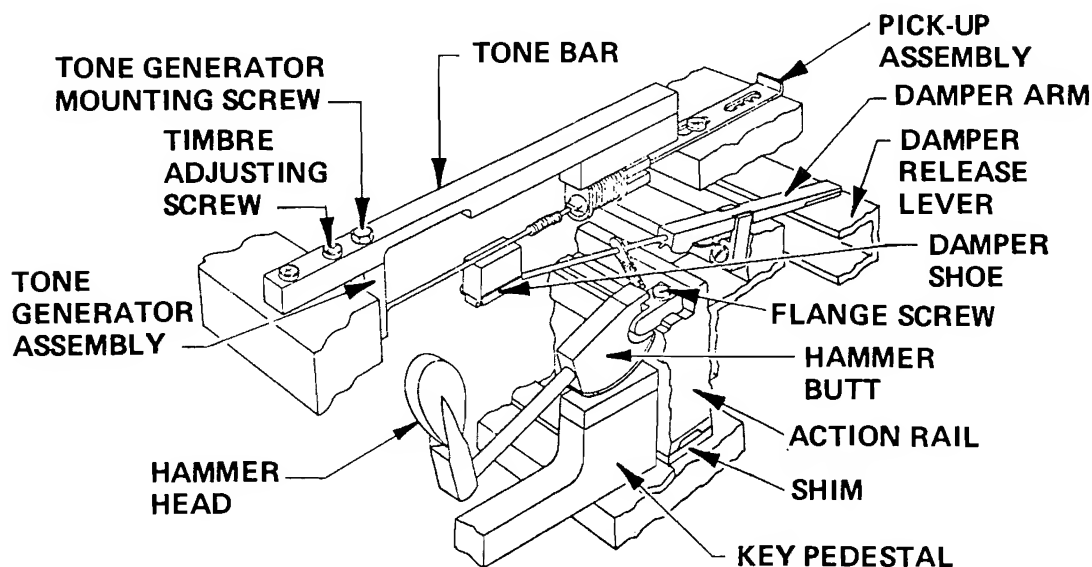
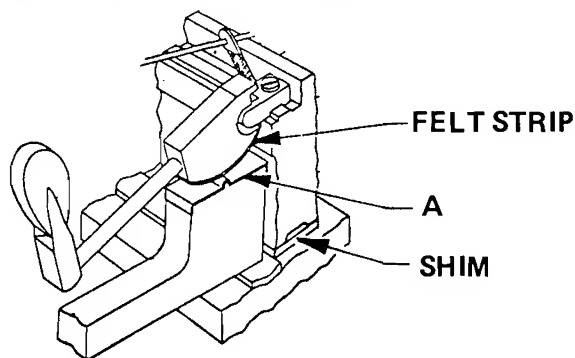

Figure 8-1. RHODES Original Action Design
Figure 8-2. RHODES Second Stage Action Design
The original Hammer Assembly appeared as shown in Figure 8-1.
An interim change involved the insertion of an aluminum clip (Figure 8-2, A) on top of the Key Pedestal. This was done to increase the acceleration of the old Hammer design.
1. Suppose you have a Piano of the vintage depicted in Figure 8-1 and wish to bring it up to current sound standards. Proceed as follows:
- (8) Carefully peel off the red woven Felt from the cam curve of the old Hammers, exercising care to leave a smooth, clean surface, and cement to the top of the Key Pedestal. This applies whether the Key is as shown in Figure 8-1 or Figure 8-2.
- (1) Remove all Tone Generator Assemblies by removing all Tone Generator Mounting Screws (Figure 8-1).
- (2) Mount all new Tone Generator Assemblies following instructions given in the Tone Generator Assembly Replacement Kit.
- (3) Adjust Timbre. See Timbre Adjustment, Page 4-6.
- (4) Adjust Volume. See Volume Adjustment, Page 4-6.
- (5) The Felt Tips are slightly taller than the Neoprene Tips, so escapement must be re-established. See Page 4-1.